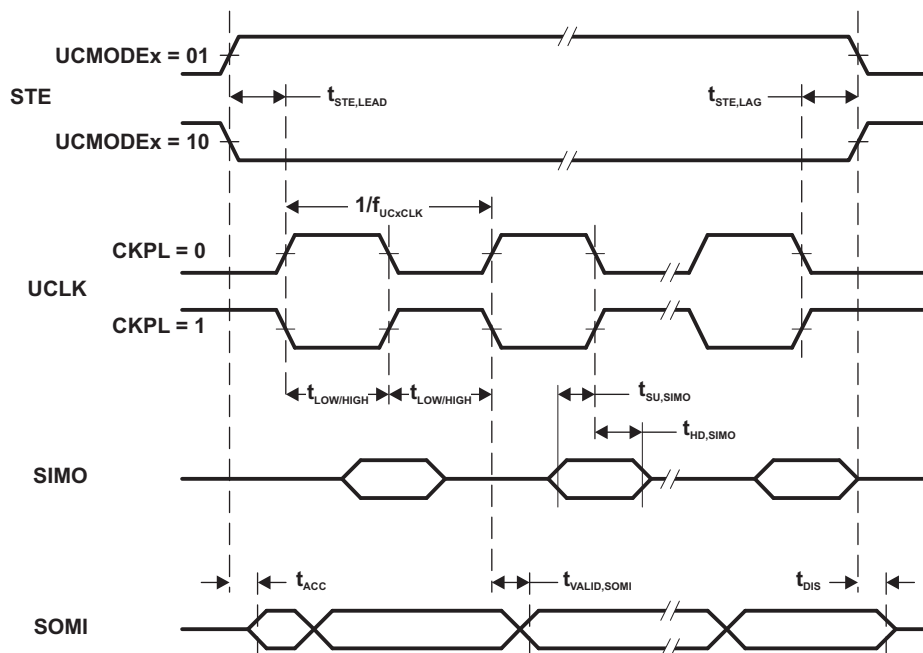

Figure 15. SPI Slave Mode, CKPH = 0
- Specifies the time to drive the next valid data to the SOMI output after the output changing UCLK clock edge. See the timing diagrams in Figure 15 and Figure 16.
- Specifies how long data on the SOMI output is valid after the output changing UCLK clock edge. See the timing diagrams in Figure 15 and Figure 16.